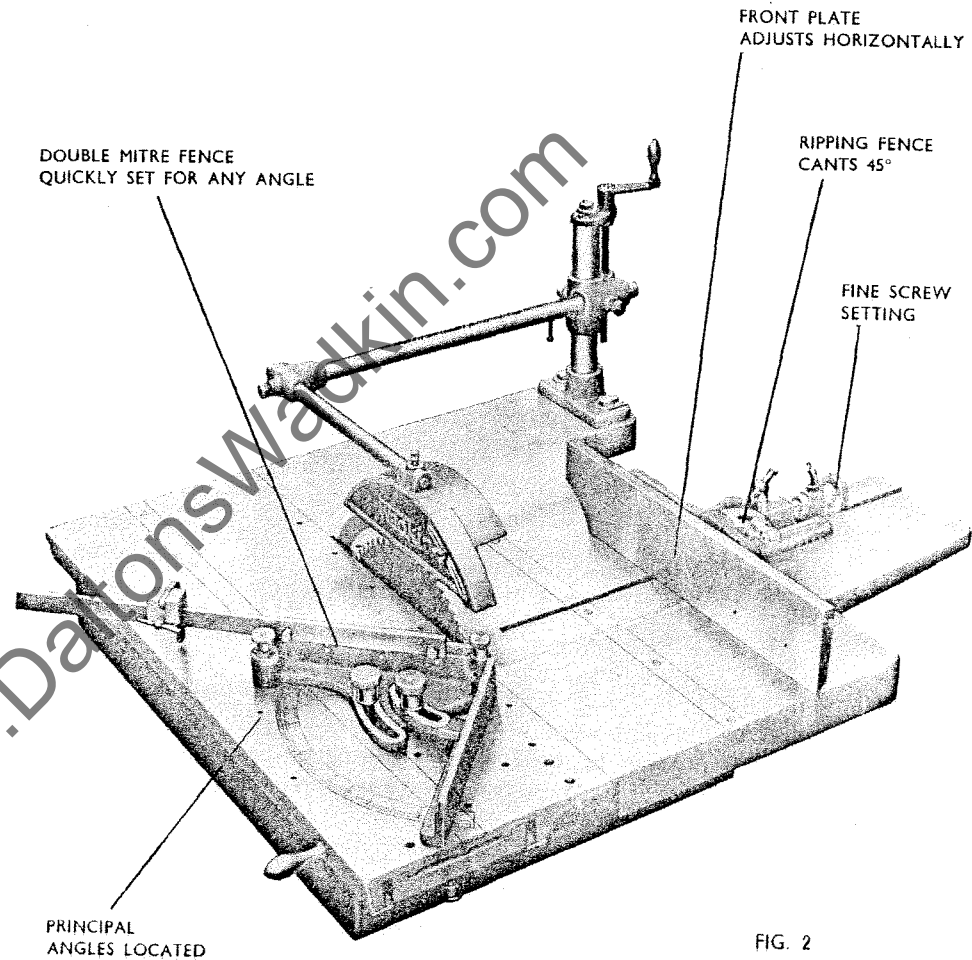

FIG. 2
**DOUBLE MITRE FENCE**, Fig. 2, is in two parts, both made to pivot from a central pin fixed in sliding table. Degree angles are marked on the table for accurately setting the fences, the principal angles being definitely located by spring plunger. Mitres can be cut giving accurately squared frames when assembled. A bar and stop determines the exact length of the material cut off.
**THE RIPPING FENCE**, Fig. 2, is for general sawing and will cant up to 45° for bevelling. The front plate is adjustable longitudinally and therefore the fence can be used when grooving or ploughing. The fine screw adjustment gives fine setting to the fence from the saw.